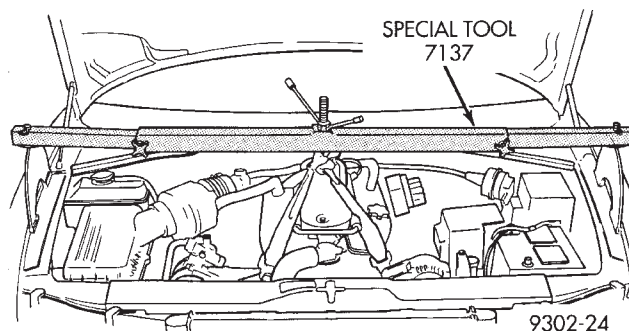

Fig. 39 Engine Supporting Fixture Installed
(1) Mount Fixture, Engine Support Special Tool 7137 or equivalent across engine compartment (Fig. 39). Using nylon webbing material such as seat belt material or equivalent, mount it to the following locations on the engine.
(5) Mount remaining piece of webbing material to left cylinder head using threaded hole on back of cylinder head. Using a bolt of the correct thread size and length, install webbing hook on bolt. Then install bolt into threaded hole on back of cylinder head and tighten bolt.
(6) Securely attach pieces of webbing material to hook on engine holding fixture (Fig. 39). Tighten hook on engine holding fixture until all slack is removed from all 4 pieces of webbing material.